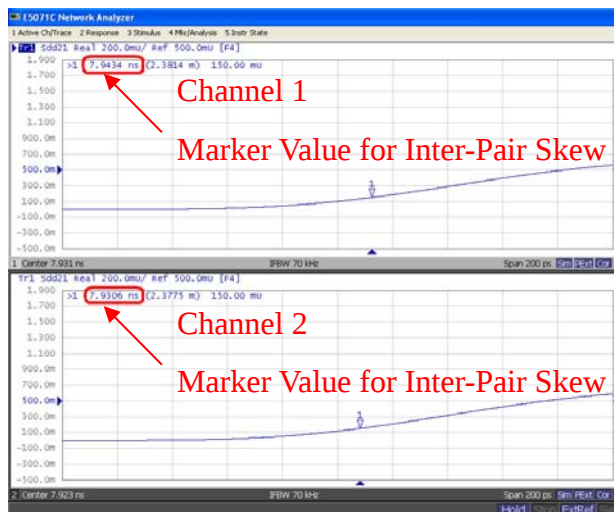

Figure 5.8.4 Marker Value for Inter-Pair Skew
22. Write down the Marker Value for Inter-Pair Skew calculation. (Refer to Figure 5.8.4